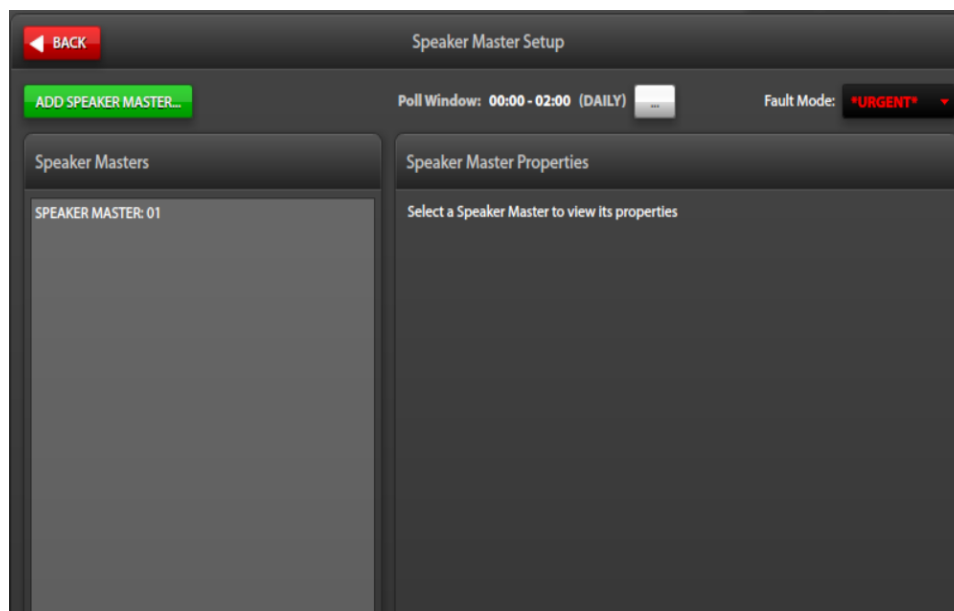

Figure 32. Speaker Mater Setup
1. Click the **SPEAKER MASTERS** button, under the **AMPLIFIERS** button, on the **SYSTEM PROPERTIES** screen, to open the **SPEAKER MASTER SETUP** screen (see Figure 32).